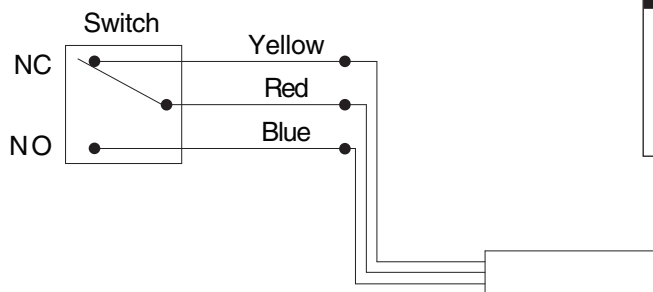

Figure 3-2
- See LX switch wiring information (Figure 3-2) for switch configuration.